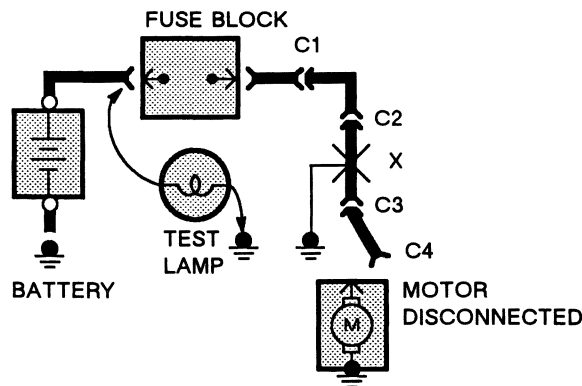

Figure 5—Short Check
- Motors: disconnect motor connector (Connector C4 in Figure 5).
5. Disconnect the test lamp lead that is connected to ground, and reconnect it to the load side of the fuse at the connector of the disconnected component. (In Figure 5, connect the test lamp lead to connector C4.)
- If the Test Lamp goes on, the short is in the wiring. You must find the short by disconnecting the circuit connectors, one at a time, until the Test Lamp goes out. For example, in Figure 5 with a ground at X, the bulb goes out when C1 or C2 is disconnected, but not after disconnecting C3. This means the short is between C2 and C3.